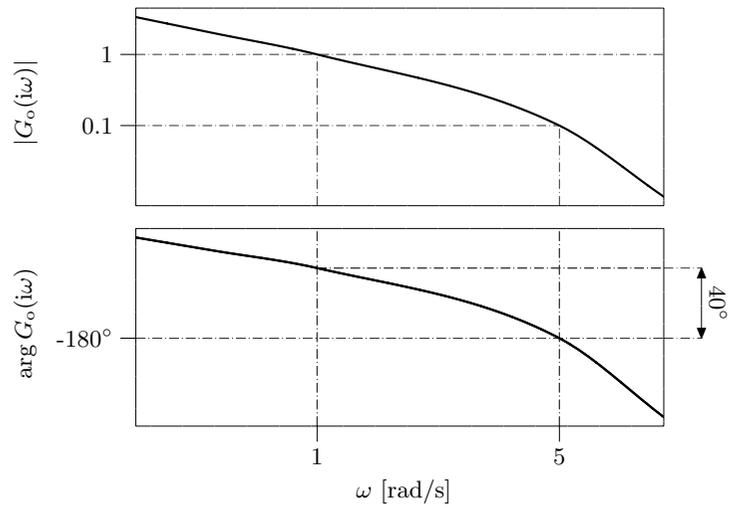

Figure 5.8b
- G_1 has a Bode plot according to the plot in Figure 5.8b. Determine for what values of the time delay T the closed loop system is stable.